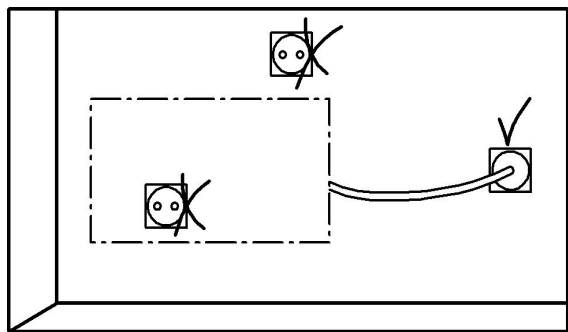
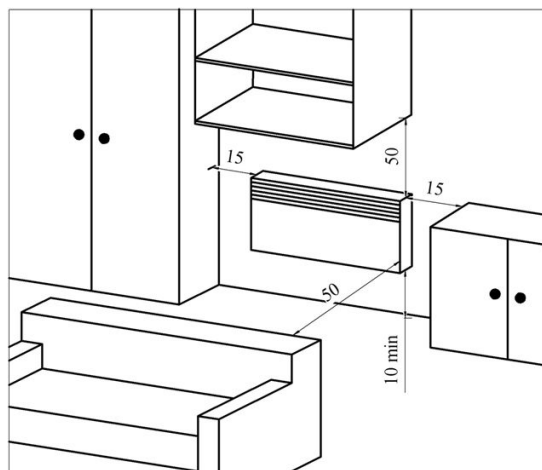

Figure 1
Figure 2
- It is necessary to hold minimum distances from the objects when mounting the convector as shown in Figure 1, Figure 2 (dimension in cm);
Place the convector on supports in the room is similar (see Fig. 2). The distance from the back wall of the convector to objects (furniture, curtains, etc.) must be at least 15 cm.